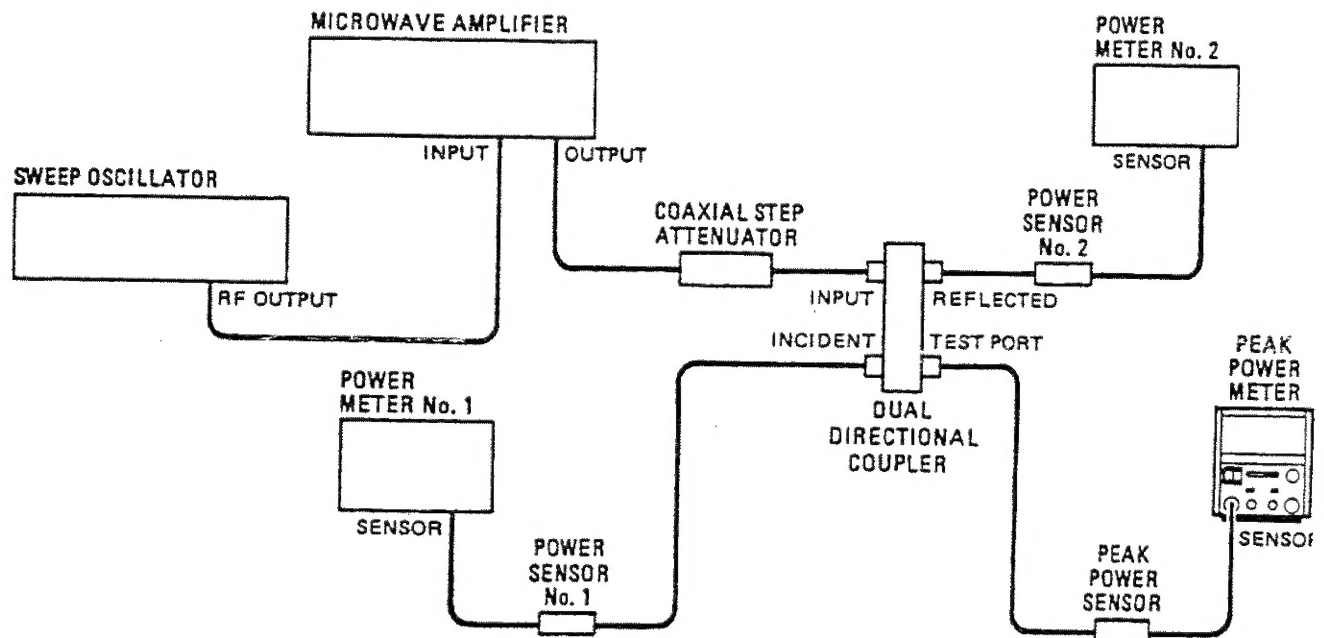

Figure 1. Return Loss Performance Test Setup
1. Set the coaxial step attenuator to 11 dB of attenuation. Connect the equipment as shown in Figure 1. Allow at least one half hour for the equipment to warm up. Then before doing the performance test, be sure the test port output of the coupler is less than 100 mW.